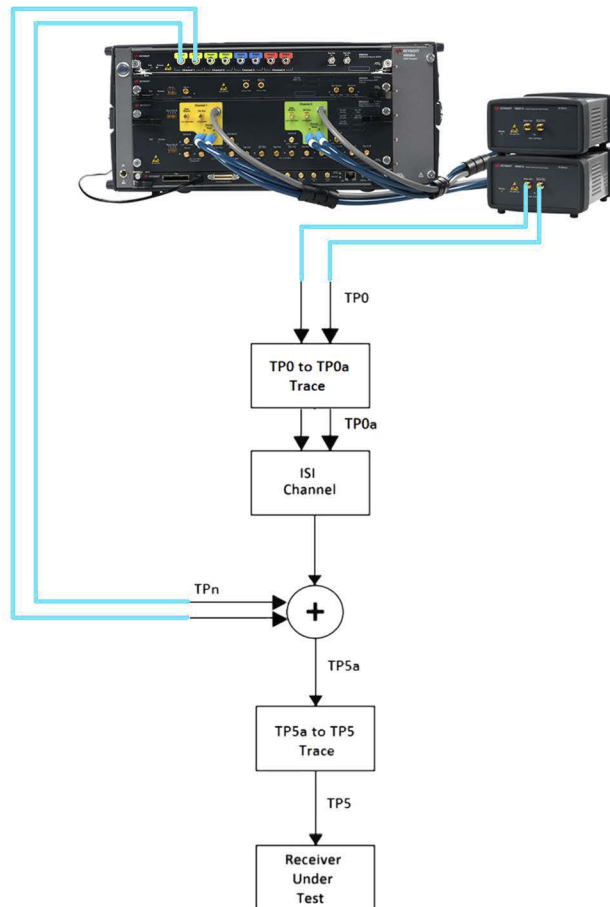
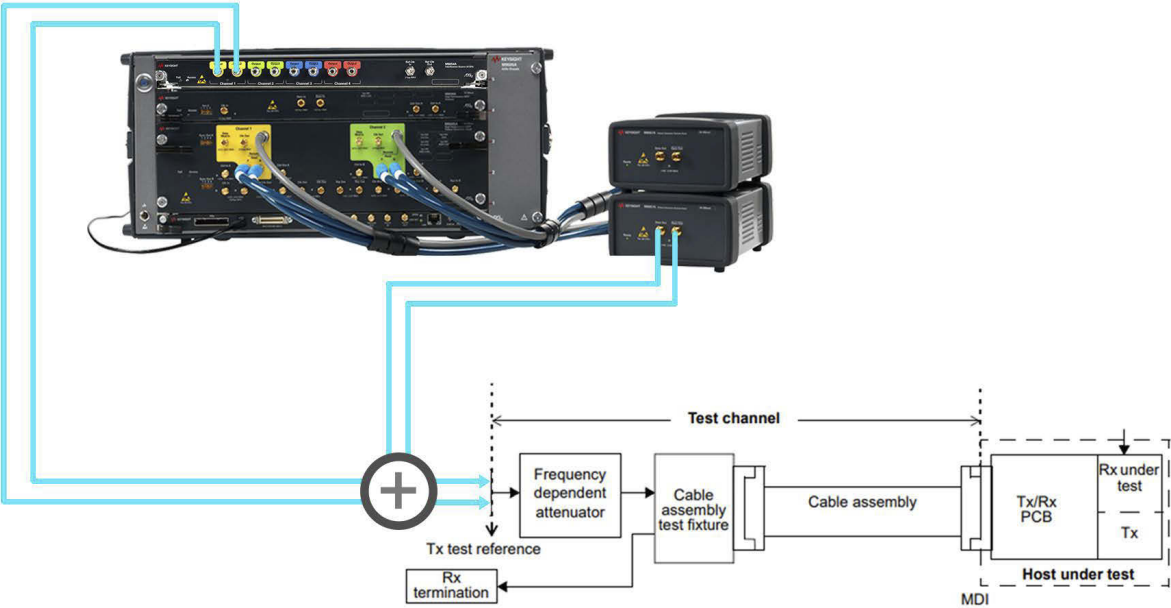

Figure 103 Channel Characterization using COM Model connections for C2C
Figure 104 Channel Characterization using COM Model connections for CR (M8040A)
Connection Diagram Connect the instruments as shown in Figure 103 (C2C/KR) or Figure 104 (CR).